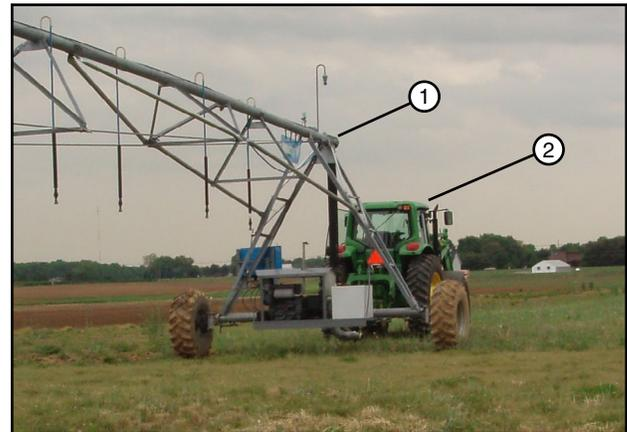

Figure 85-2 1. 2 Wheel Linear 2. Towing Unit
4. Attach the tongue to the towing unit. See Figure 85-2.